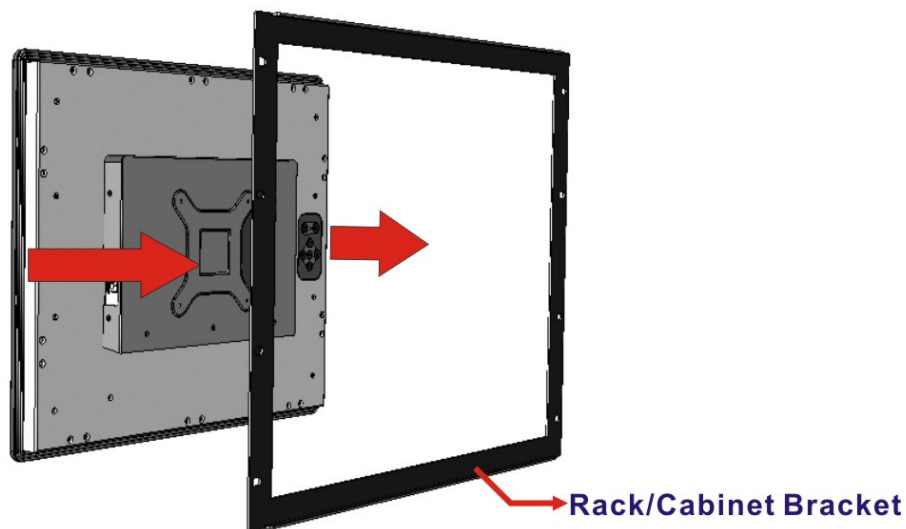

Figure 3-36: Slide DM-F19A into the Rack/Cabinet Bracket
Step 1: Slide the rear of the DM-F series LCD monitor through the rack/cabinet bracket until the aluminum frame is flush against the front of the bracket (**Figure 3-36**).